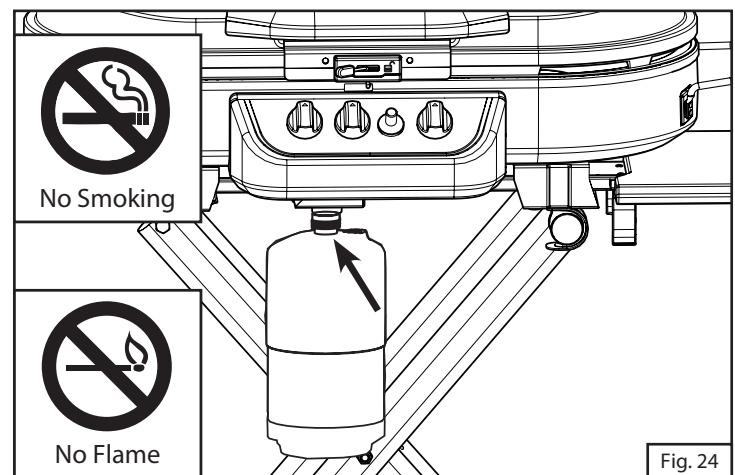

Fig. 24
3. Apply a soap solution to the connections indicated with the arrow. (Fig. 24) If bubbles appear at these areas, a leak is indicated.